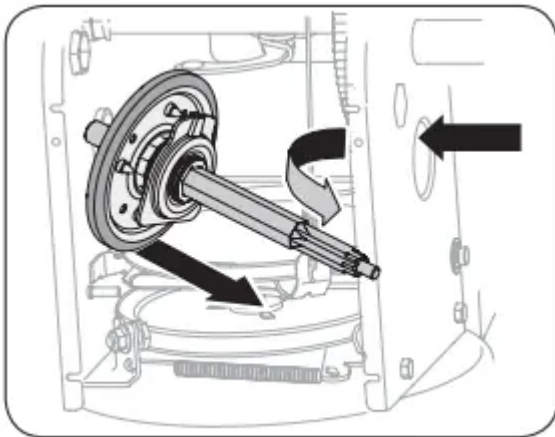

Figure 74
- Carefully position the hex shaft downward and to the left before carefully sliding the friction wheel assembly off the shaft. See Figure 74. NOTE: If you're replacing the friction